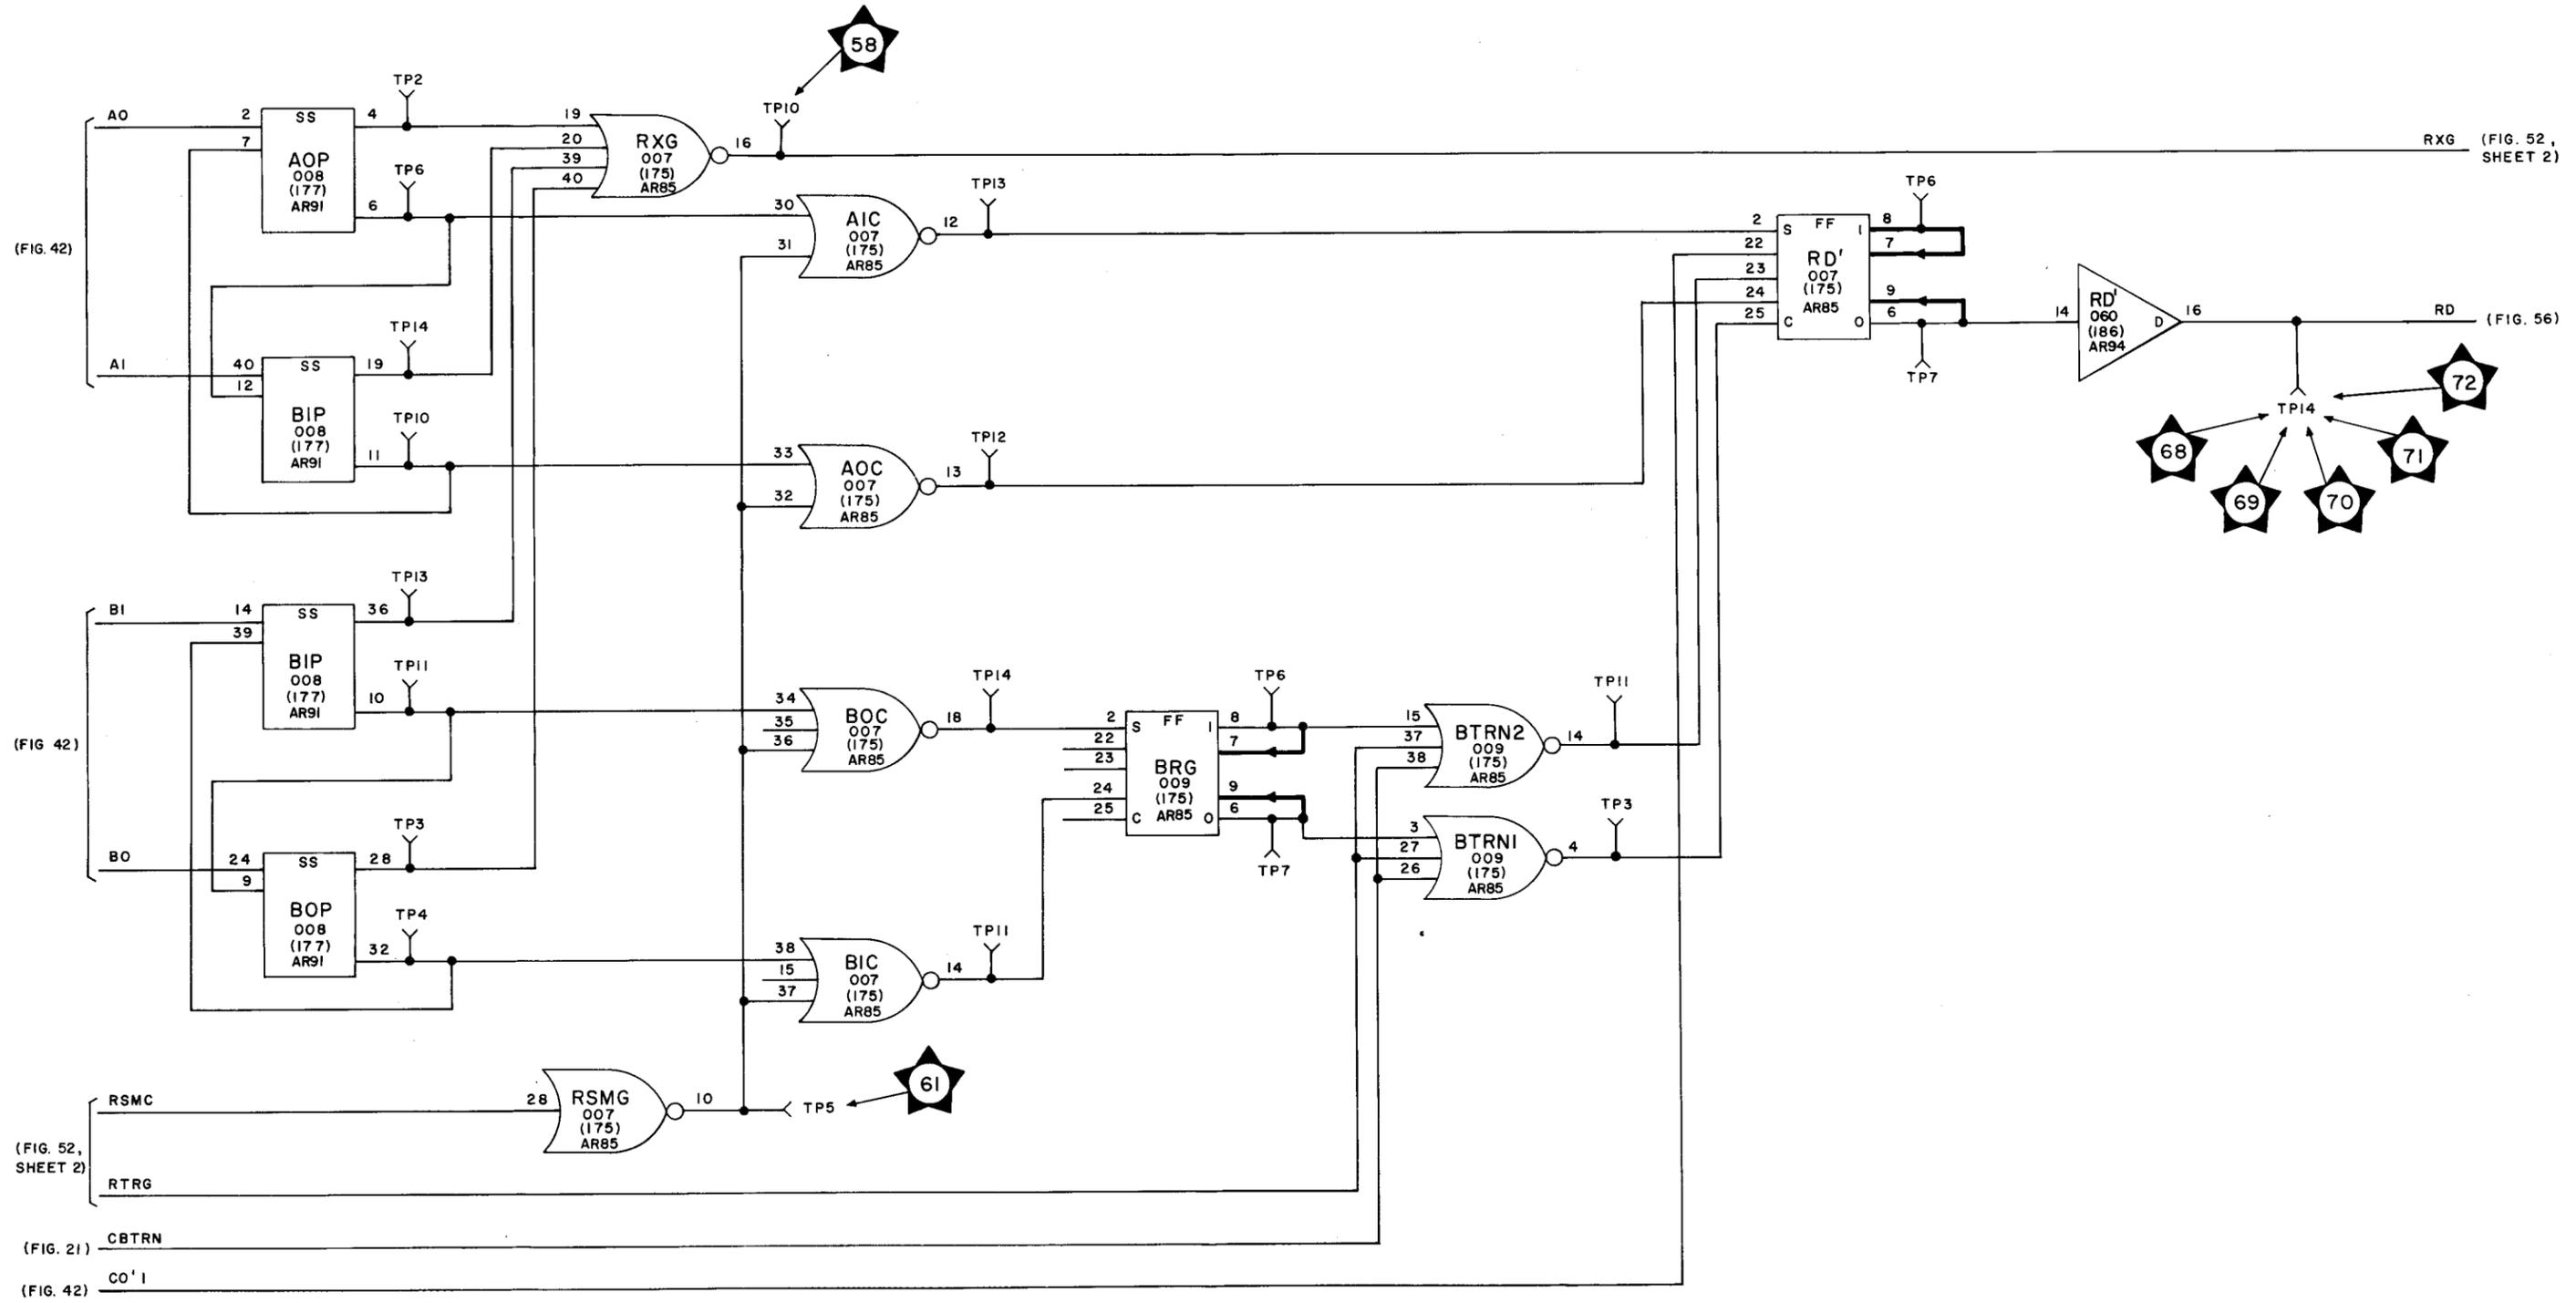

Fig. 51 — Digital Data Receiver, Functional Schematic
11.31 The receiver timing circuits recover synchronization timing signals required for both sampling and parallel-to-serial conversion of the received data. Voltage and waveform requirements for the tests shown in Fig. 43 through Fig. 50 are keyed to the functional schematic shown in Fig. 51 and Fig. 52.